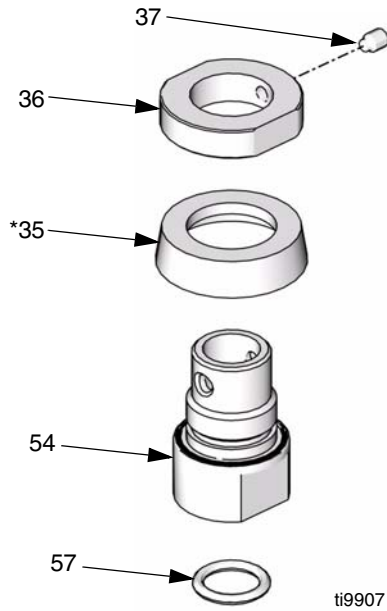

FIG. 21
- Remove set screw (37) from collar (36). Remove collar from piston housing (54). Remove u-cup (35\*). Remove o-ring (57) from ID of piston housing. Inspect all parts for damage. See FIG. 21.